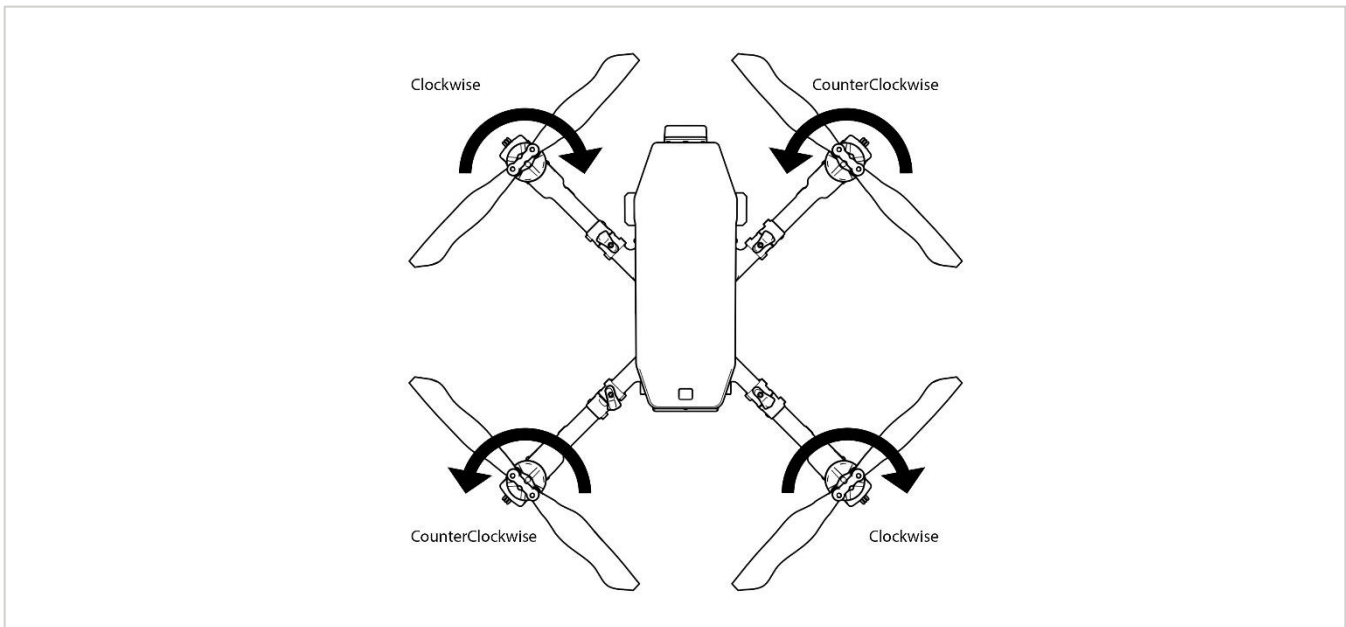

FIGURE 6.A PROPELLER ROTATION ORIENTATION (TOP VIEW)
The SIRAS aircraft uses foldable carbon-fiber-reinforced nylon propellers installed on the aircraft. The motors will spin two propellers in a clockwise (CW) direction and two in a counterclockwise (CCW) direction. Each propeller is labeled with the correct direction of rotation (CW or CCW). When replacing the propellers, refer to Figure 6.A for correct orientation.
Extend the foldable section of the aircraft arms until they are aligned with the non-movable base section of the arms. Turn the lock clockwise until it clicks into place to secure the arm in the extended position, as shown in Figure 6.B.